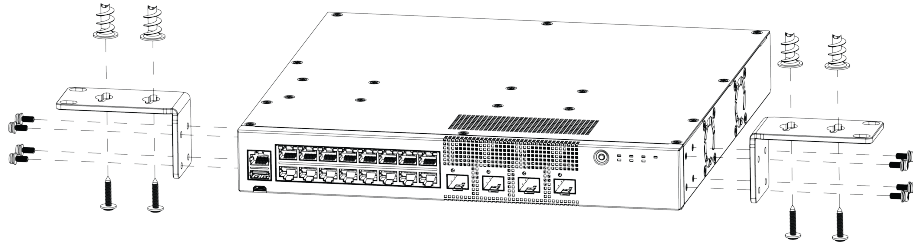
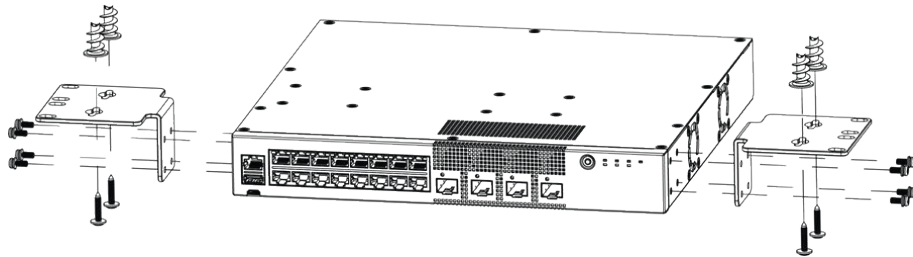

Figure 55: Under the Table Mount: Attaching 1U mounting ears to 5320-16P models
Figure 56: Under the Table Mount: Attaching larger mounting ears to 5320-16P models
4. Using rack mount screws, attach a mounting ear to the left side of the switch, at the front end. Figure 55 and Figure 56 on page 79 show the attachment of the screws.